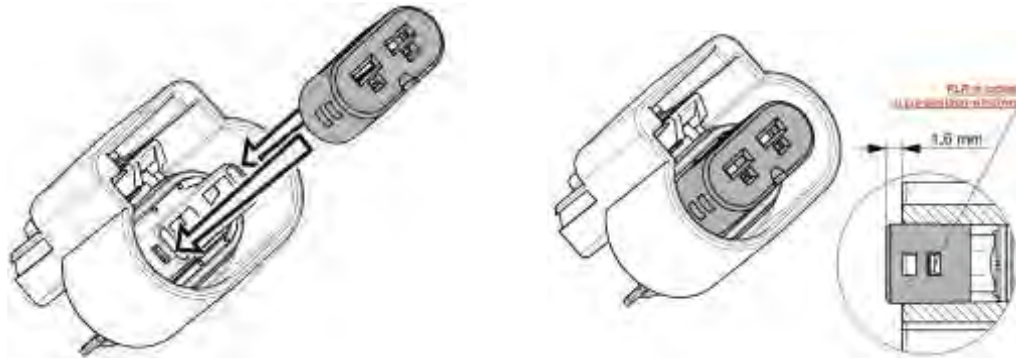

Figure 52
- (o) Insert PLR until it is correctly closed in pre-position windows, as shown in Figure 52.